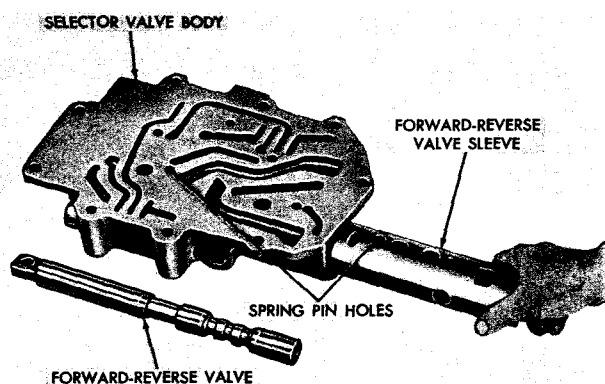

Fig. 6-2. Installing forward, reverse valve sleeve—early model
(4) Install gasket 19 onto retainer plug 15. Install retainer plug 15 into the valve body.
(5) If bushings 26 or 33 were removed from valves 27 or 32, install new bushings. Press the bushings into the valve stems until they are flush with, or below, the surface of the stems.
(6) Install plug 23 into valve body 34.
(7) Install spring 9 and detent ball 10 (upper group) into valve body 34.
(8) Depress the ball and spring, and install the range selector valve 32, notched-end first, into the rear of the valve body bore. Push the valve into the bore until it catches detent ball 10. Remove the tool with which the detent ball was depressed, and push the valve to a detent position.
(9) Install remaining detent ball 10, spring 9, pin 8, gasket 7 and plug 6 (upper group).
(10) Install the forward-reverse valve sleeve 24 into the valve body as shown in fig. 6-2. Note the relative positions of the valve body and sleeve, and the openings in the sleeve. The spring pin holes in the body and sleeve must be alined.
(11) Install spring pin 11. Drive it into the valve body until it seats in the valve sleeve.
(12) Install spring 9 and detent ball 10 (lower group) into the valve body.
(13) Depress the ball and spring, and install the forward-reverse control valve assembly 25, notched end first, into the rear of the valve body. Push the valve into the bore until it catches detent ball 10. Remove the tool with which the detent ball was depressed, and push the valve to a detent position.
(14) Install remaining detent ball 10, spring 9, pin 8, gasket 7, and plug 6 (lower group).
(15) Install seal 12, spring-loaded side inward, onto the range selector valve stem.
(10) Install the forward-reverse valve sleeve 24 into the valve body as shown in fig. 6-2. Note the relative positions of the valve body and sleeve, and the openings in the sleeve. The spring pin holes in the body and sleeve must be aligned.